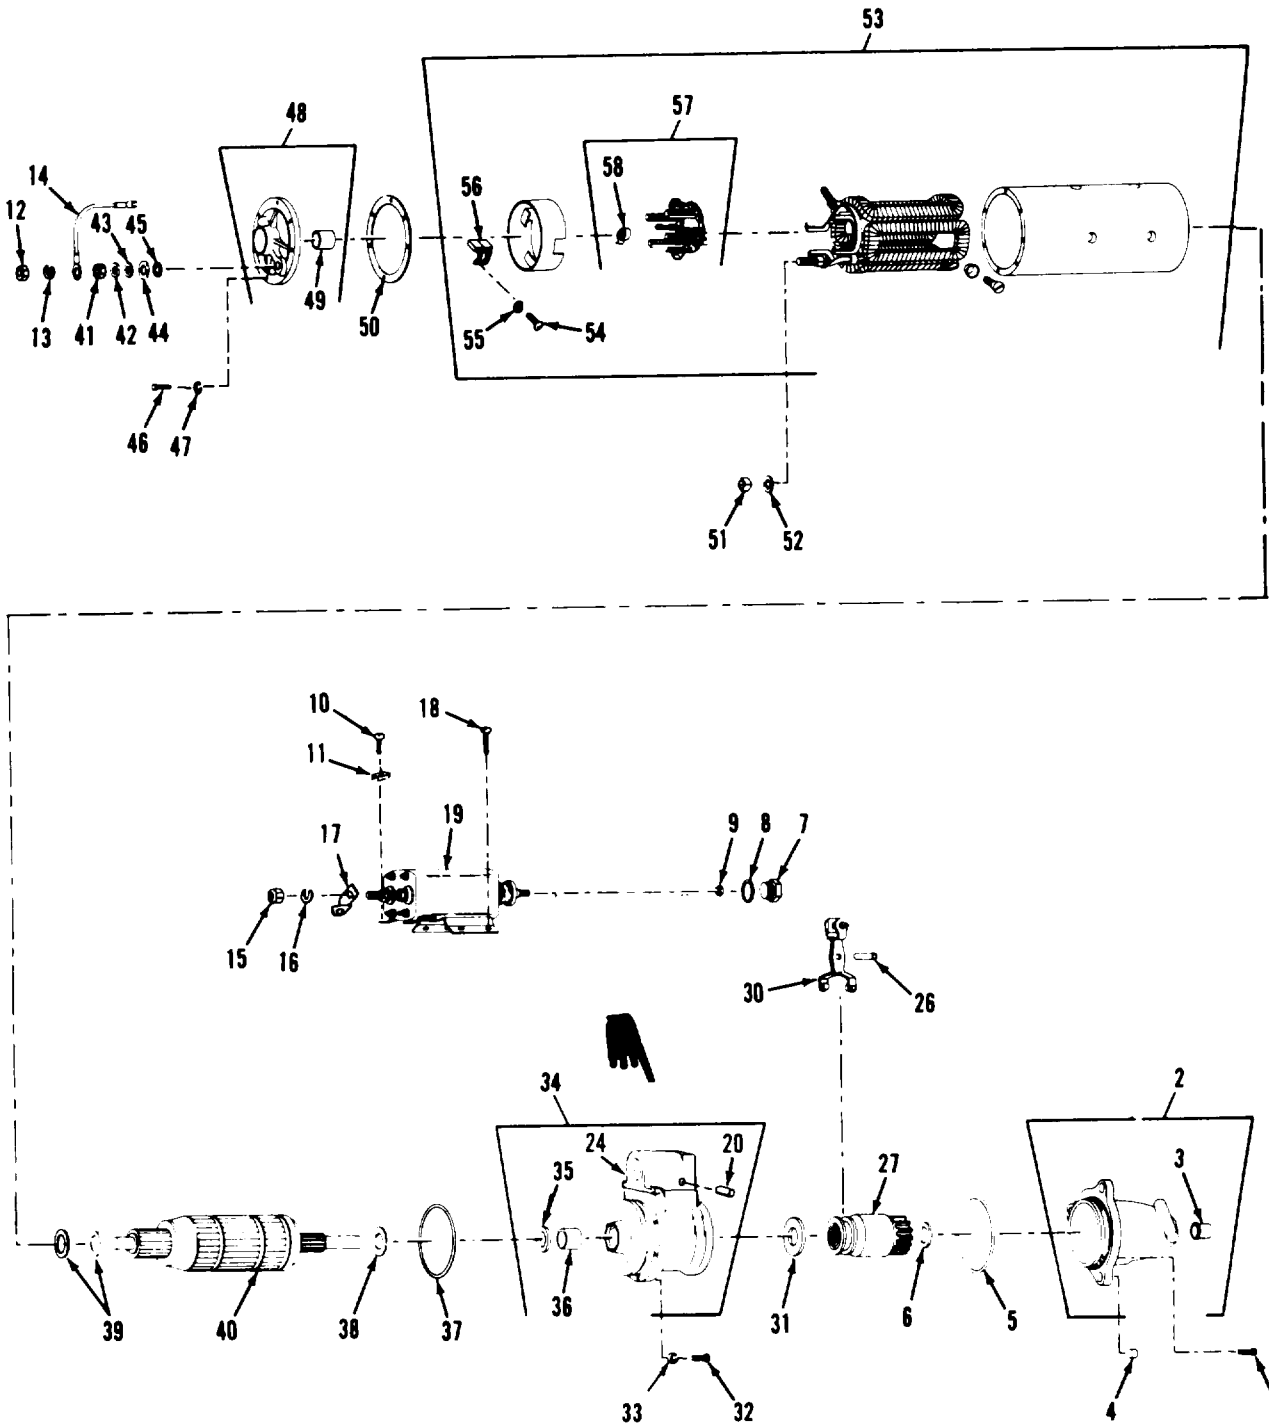

Figure 8-7. Starter motor, exploded view
Refer to figure 8-7 and disassemble starting motor in the order of index numbers assigned. Pay particular attention to the following:
e. Inspect commutator on armature (40, figure 8-7) for rough spots, discoloration, pitting, scoring, and high mica.
f. Inspect armature shaft (40) for pitting, scoring, or excessive wear. Inspect starter drive (27) for broken teeth on pinion. Check to see that starter drive (27) clutch assembly moves on armature shaft (40) to see if splines fit properly.
g. Inspect solenoid switch (19) parts. Check condition of moving core and sealing boot. Check connector (17) and terminal studs to see if they are burned, eroded, or pitted excessively.
h. Using a suitable spring scale, check brush springs (58) tension. Tension should be 50 to 60 ounces.
e. Repair commutator on armature (40, figure 8-7) by turning it down using a suitable lathe. Take light cuts until all defects are removed. Remove all burrs by holding No. 00 sandpaper lightly against commutator. Undercut mica to a depth of 1/32 of an inch using a suitable mica under-cutter.
Refer to figure 8-7 and reassemble starting motor in the reverse order of index numbers assigned. Pay particular attention to the following:
Legend to figure 8-7: